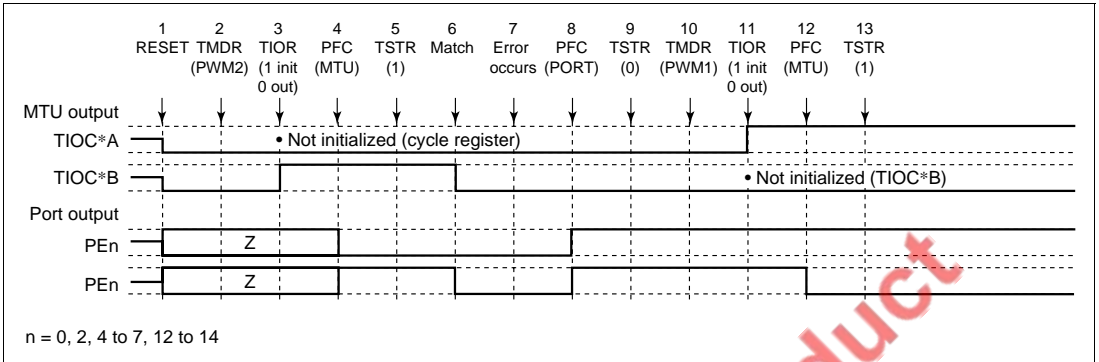

Figure 8.56 Error Occurrence in PWM Mode 2, Recovery in PWM Mode 1
(8) Operation when Error Occurs during PWM Mode 2 Operation, and Operation is Restarted in PWM Mode 1: Figure 8.56 shows an explanatory diagram of the case where an error occurs in PWM mode 2 and operation is restarted in PWM mode 1 after re-setting.